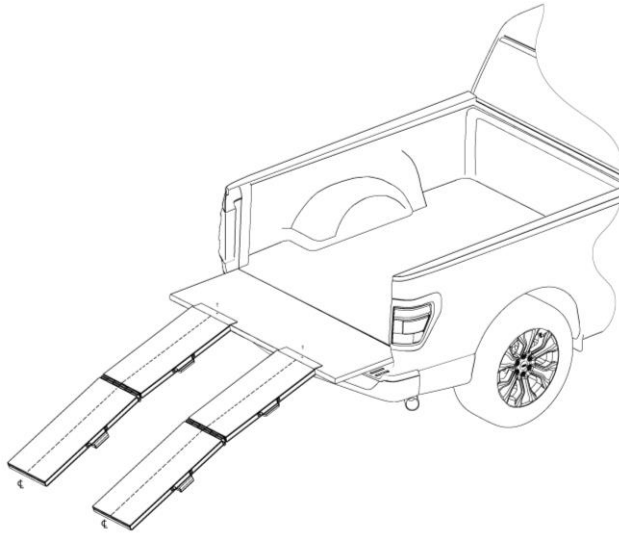

FIG. 1
- ▲ Always enter and exit ramps along the centerline (☉) (FIG. 1).